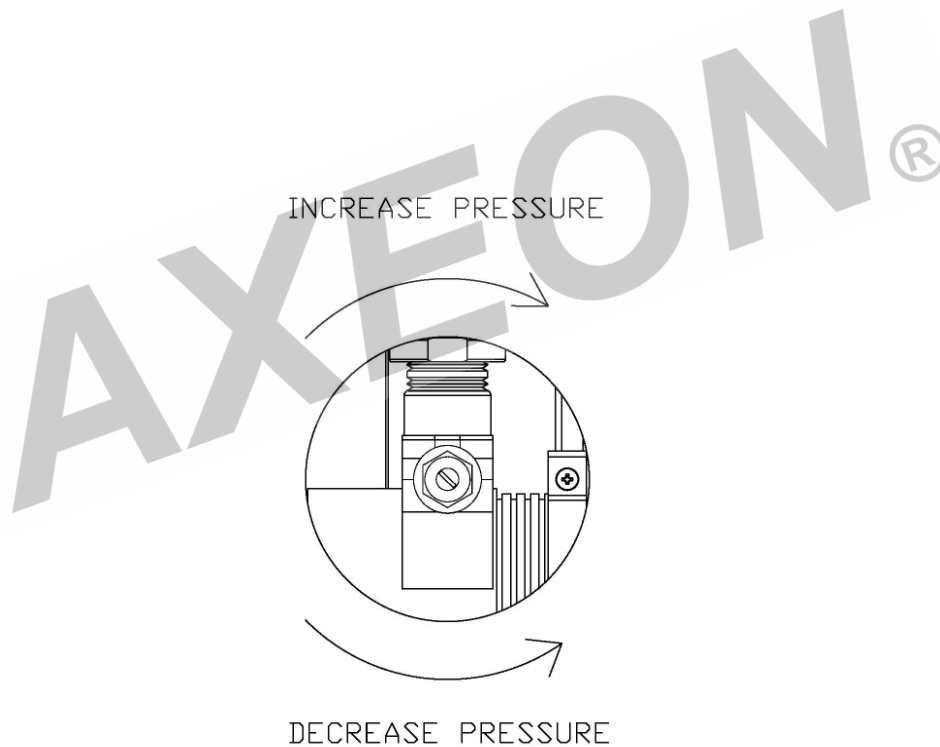

FIGURE 3
5. Turn the RO system on #6 and adjust the concentrate (waste) valve #8, recycle valve # 7 (if applicable), and the bypass screw on the pump to the designed flow and pressure. (Figure 3, Page 24)
Use a fat screw driver to increase or decrease the pressure to the bypass valve. To increase the pressure, turn the screw clockwise. To decrease the pressure, turn the screw counter clockwise. (Figure 3, Page 24)